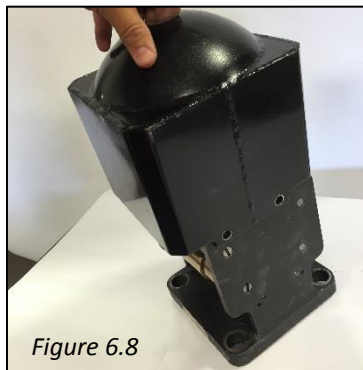

Figure 6.8
3. Place cover over valve. (Figure 6.8) Place split lock washers and cover bolts in a 5" x 5" poly bag. Cover to be applied after valve is installed and leak tested on car. Refer to Section 2.2.8. for valve cover application.